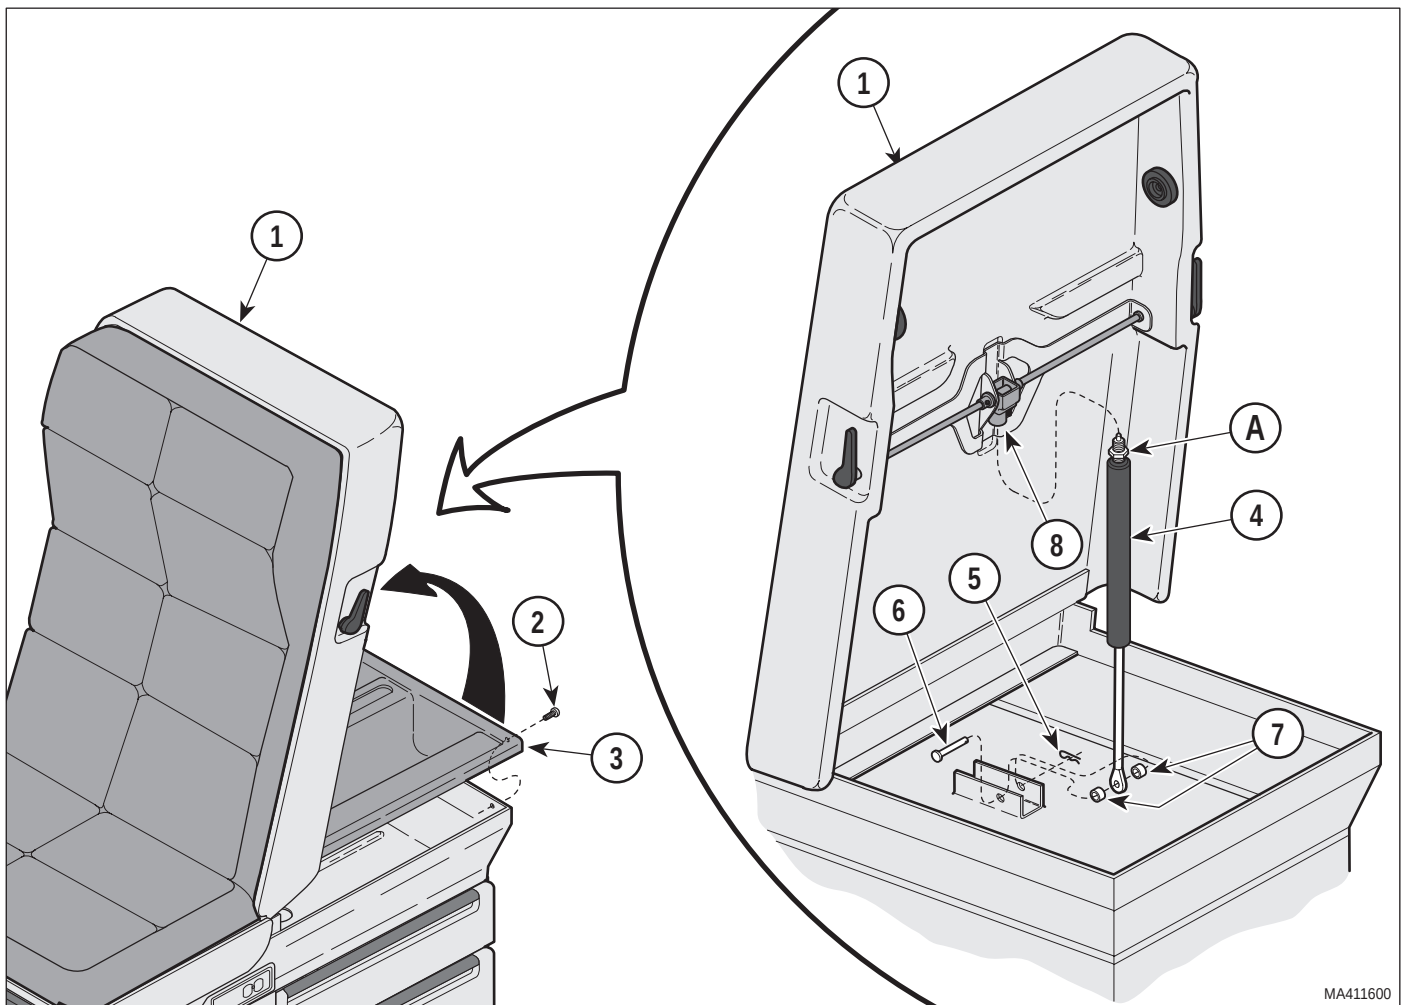

Figure 4-10. Back Actuator Removal / Installation
- (1) If possible, raise the back section (1, Figure 4-10) to its highest position.
- (2) Remove four screws (2, Figure 4-10) from paper storage (3) and raise the paper holder until access to the gas cylinder (4) is attained.
- (3) While supporting back section (1), remove the hitch pin (5), pin (6) and spacers (7) from the gas cylinder (4).
- (4) Remove gas cylinder (4) by unthreading (counter-clockwise) the cylinder from the actuator cap (8).